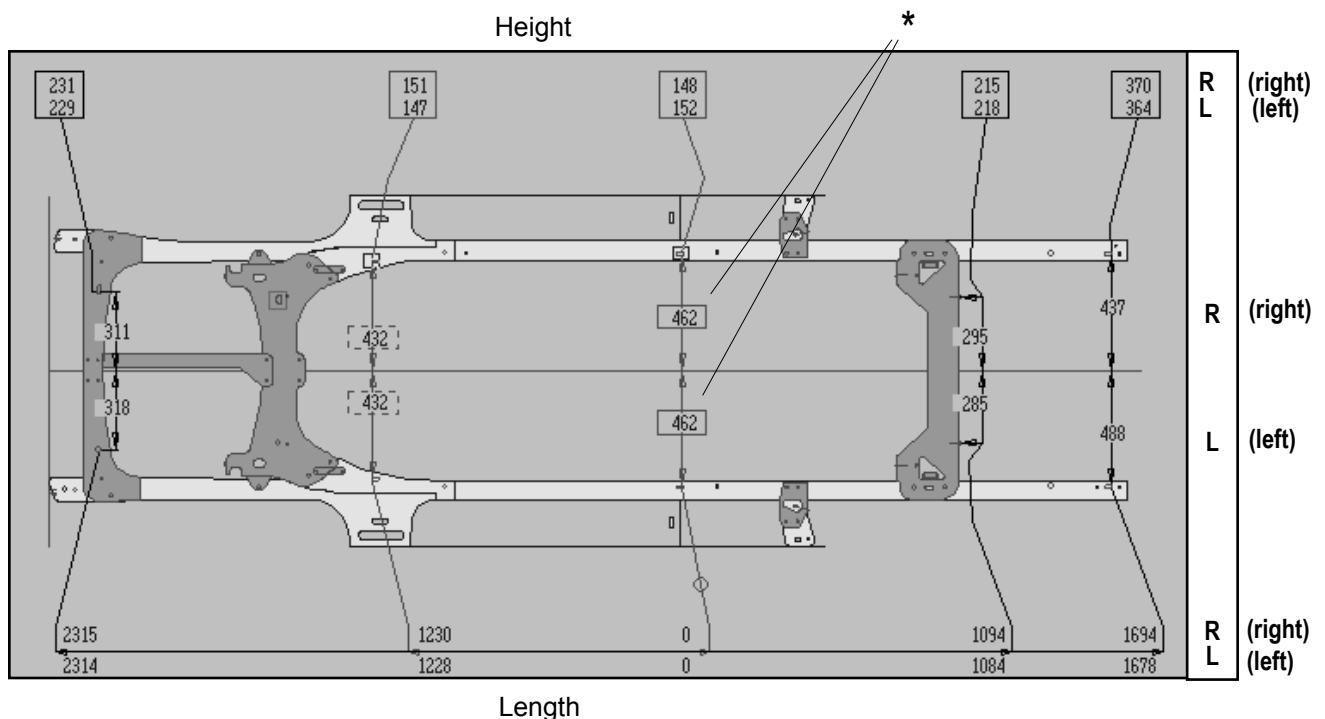

Figure 44
Vector measurements are displayed on Vehicle Graphics. (See Figure 44.)
**Actual Measurements** mode shows only current measurements taken by Vector. (See Figure 44 - previous page.) When specifications don't